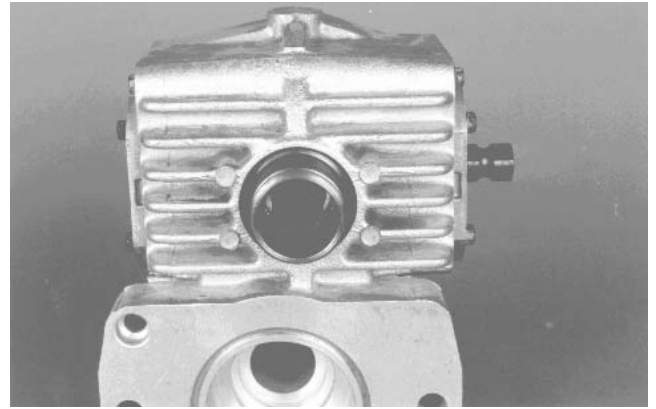

Figure 60
8. Install PTO seal guide and O-ring into housing. Install spiral retaining ring (Fig. 60).